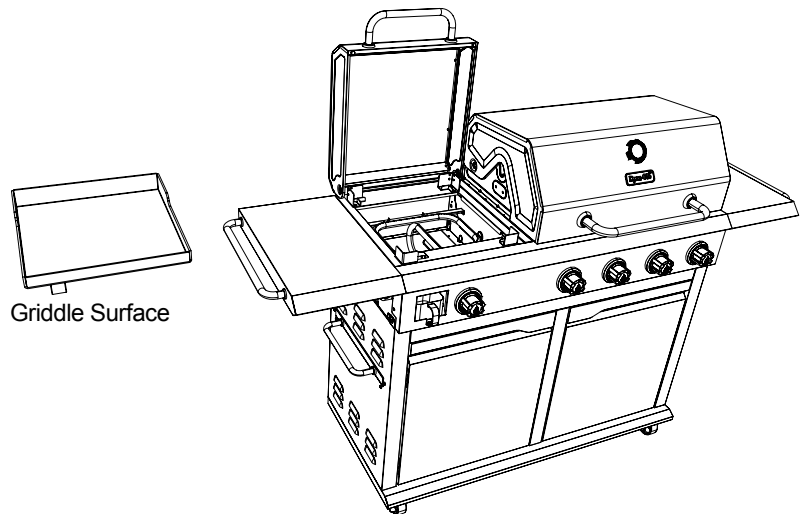

Figure 1
2. Open griddle lid and remove the griddle surface as shown in Figure 1.